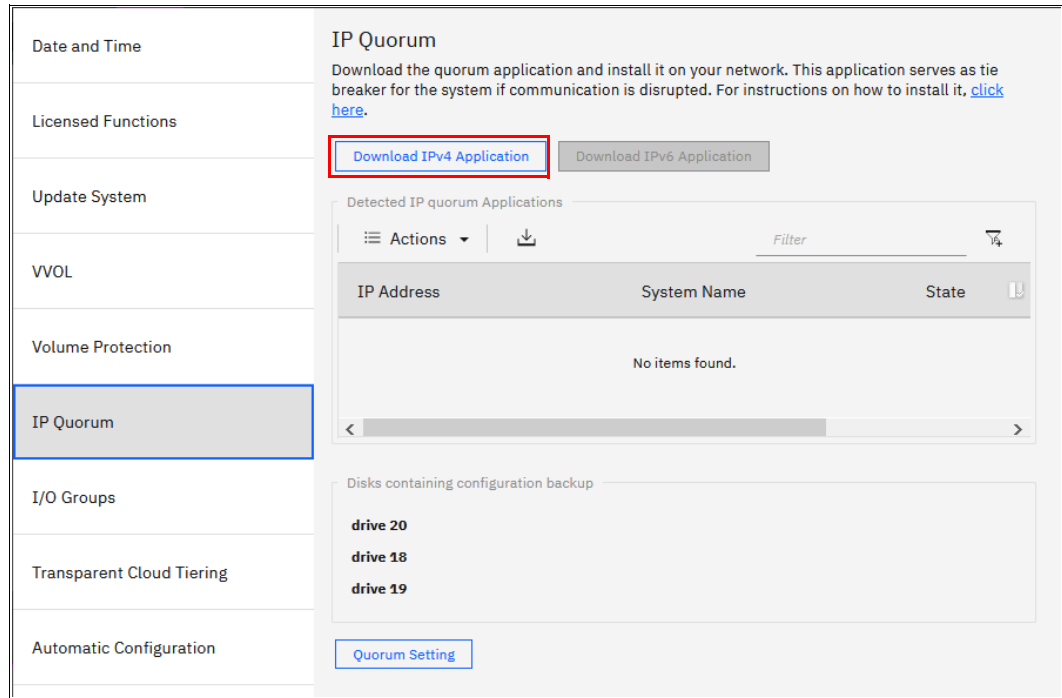

Figure 4-93 IP Quorum settings
1. If your IBM Storage System is configured for IPv4, click **Download IPv4 Application**. If it is configured for IPv6, select **Download IPv6 Application**. In our example, IPv4 is the option, as shown in Figure 4-93 on page 219.